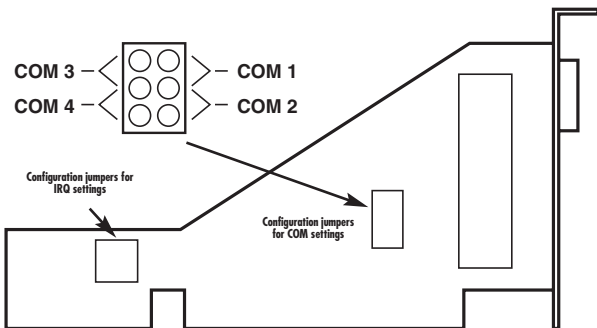

Figure 3-1. Location of the Configuration Jumpers.
1. Determine the number of serial ports installed in your system. Each port will have a unique “COM” designation number. Configure the PC Plus Adapter for the next consecutive unused COM address and make a note of your selection. You will need it when installing the Adapter software. **Figure 3-1** shows the location of the jumpers on the card.